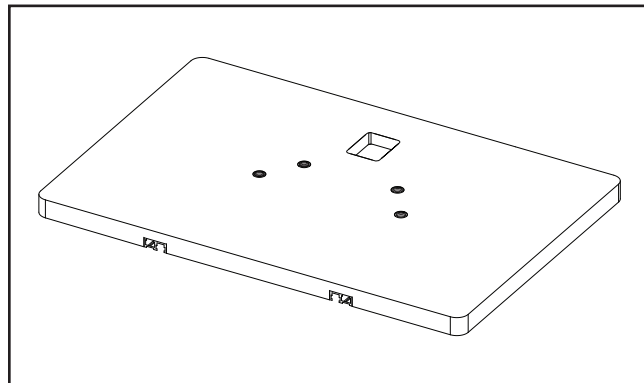

Figure 4. Model T32710 table ready for installation.
3. Remove table insert, flip-stops, and fence from Model T32710 table and place table upside down on workbench or table (see **Figure 4**).